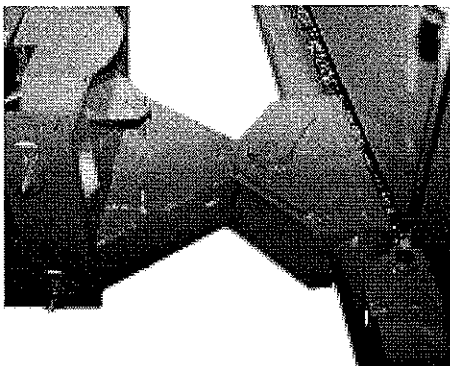

figure 8
2. Slide the brush frame swing point over the lift/swing assembly swing point (figure 8). Align holes and install the 3/4 x 9 in. cap screw and lock nut.